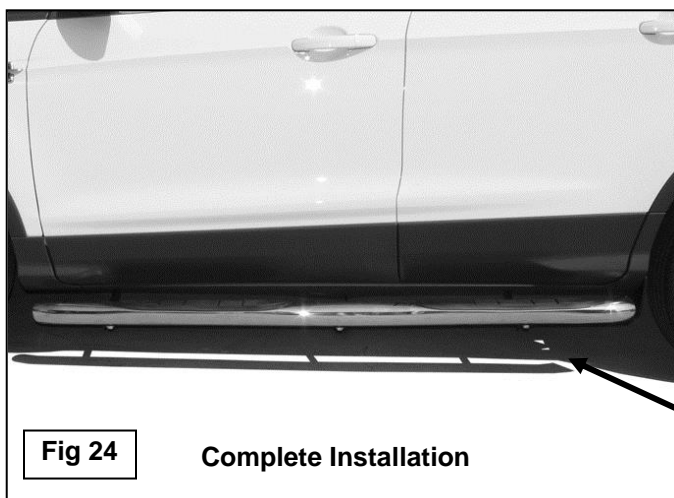

Fig 24
10. Carefully unwrap and select the driver Sidebar. Place the Sidebar in position on top of the (3) Brackets. **NOTE:** It may be necessary to loosen the Brackets slightly to line up the cradles with the threaded inserts in the Sidebars. Bolt the Sidebar to the Brackets with (6) 8mm x 30mm Hex Bolts, (6) 8mm Lock Washers and (6) 8mm flat washers, **(Fig. 24)**.